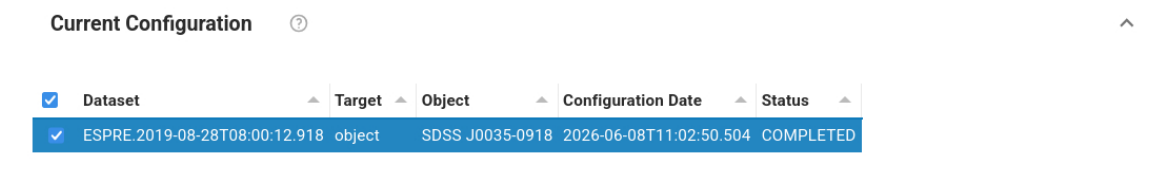
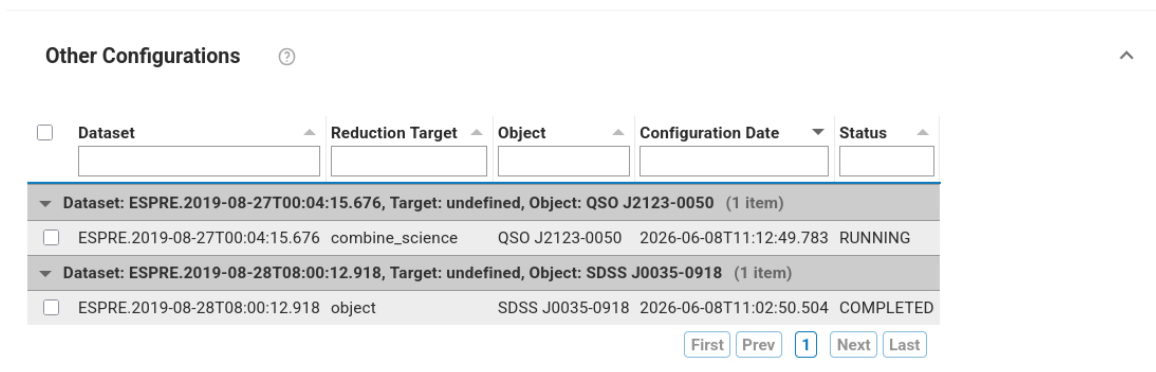

Figure 23: The first part of the Reduction Configuration Editor, that indicates the selected configuration.
Figure 24: The second part of the Reduction Configuration Editor, that indicates other configurations for which we'd like to apply the changes.
- **Current configuration.** It indicates the name of the selected configuration for a given dataset (Figure 23).
- **Other configurations.** It allows to specify other configurations, to which the changes shall be copied to (Figure 24).
Figure 26: The fourth part of the Reduction Configuration Editor, that allows to specify the parameters sets and the recipe parameter per task. These settings can be applied to the "Selected Configuration" (Fig. 23) or to the "Other Configurations" (Fig. 24).